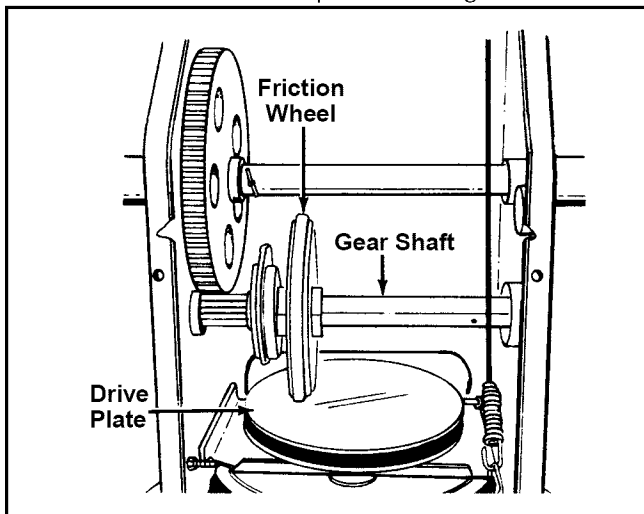

Figure 19
- With traction control engaged, the friction wheel must contact the drive plate. See Figure 19.